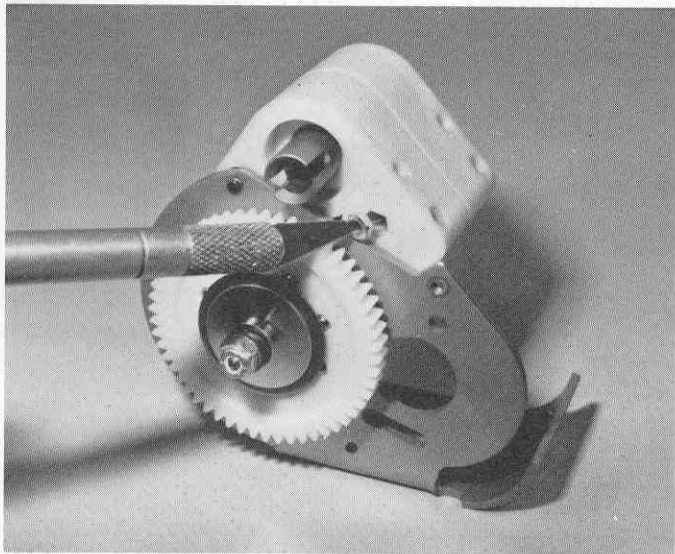

Fig. 93
□ **Fig. 93** Take the other short screw, then slip a 4/40 nut into the hex hole, as shown, and tighten this screw.